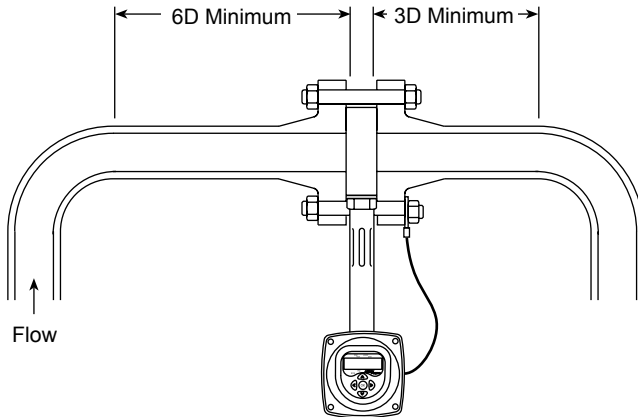

Fig. 12
**Note:** See Figures 12 to 15 for other considerations which need to be noted before determining the correct installation location.
The TFA flowmeter normally only requires a minimum of 6 pipe diameters upstream and 3 downstream of clear straight pipe. These dimensions assume a measurement from a single 90° bend (see Figure 12).